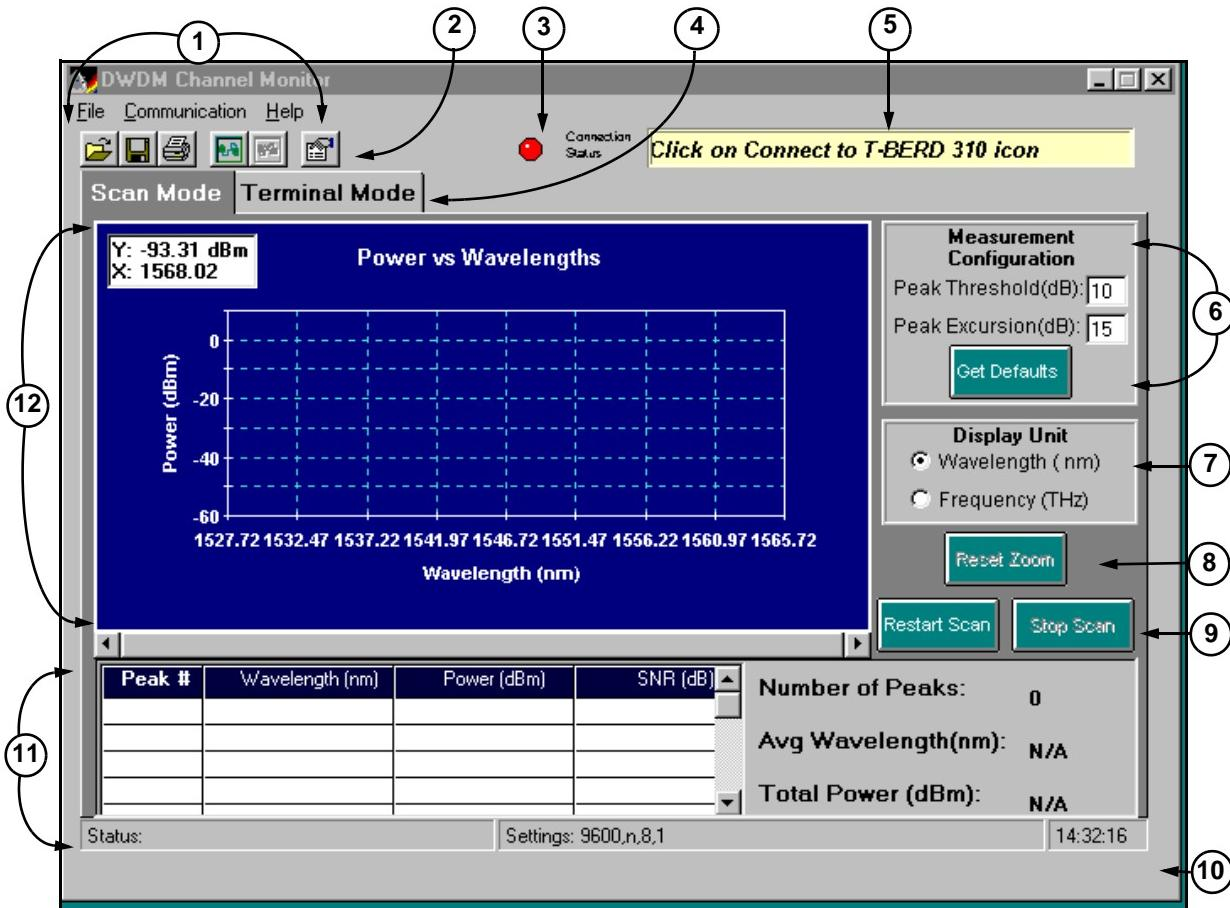
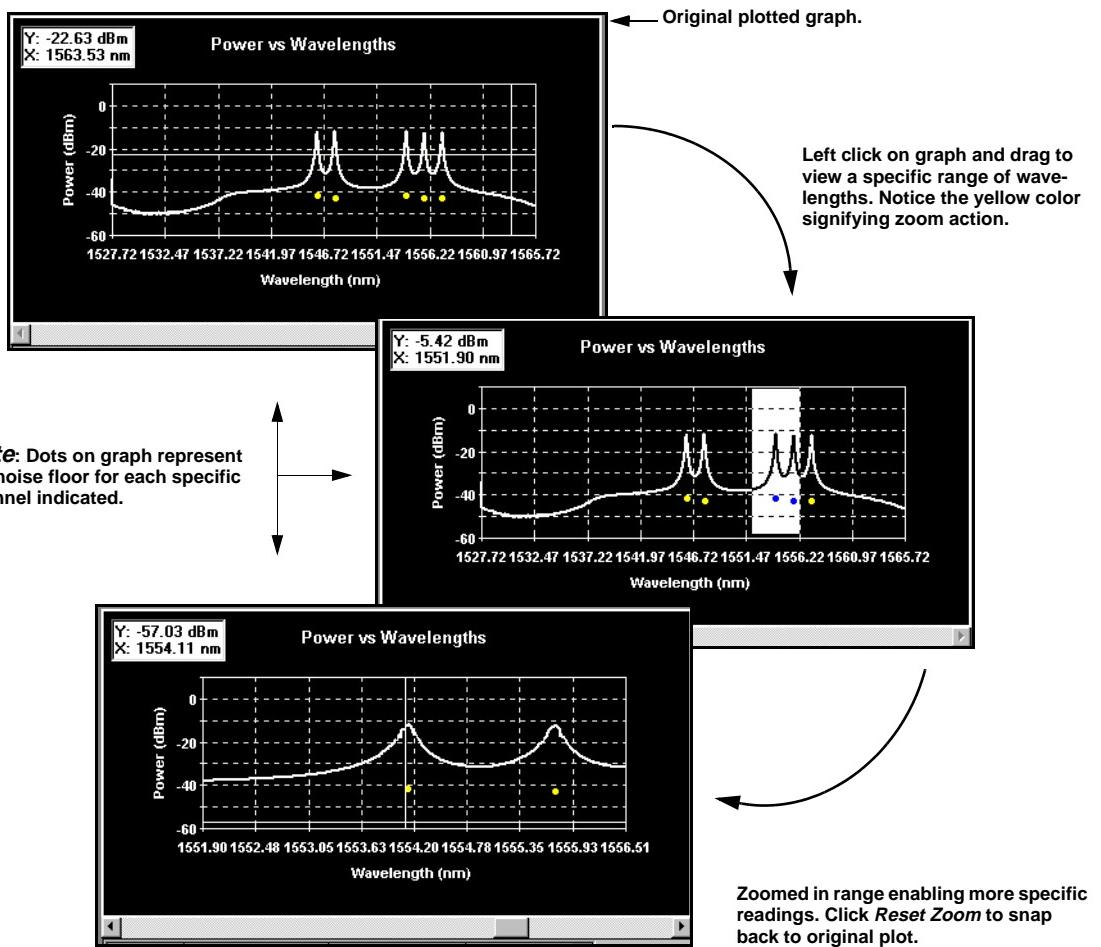

Figure 2-29. DWDM Channel Monitor Scan Mode Property Sheet
Figure 2-34. DWDM Scan Mode Zoom Capability
4. Verify connection. When program is launched on the laptop, it tries to connect automatically to the T-BERD 310. If the connection is successful, the LED above the **Scan Mode** property sheet (see Figure 2-29, callout #3) turns green; otherwise, it stays red. If red, check settings on laptop (click **Properties** icon above **Scan Mode** property sheet) to display CommPort Properties dialog box. It should look similar to Figure 2-28.
The program opens with the Scan Mode property sheet. Behind that screen is a second tab, the Terminal Mode property sheet. Figure 2-29 shows the opening screen. Descriptions of the callouts follow.
4. **Tabbed Property Sheets** — There are two tabbed property sheets: **Scan Mode** and **Terminal Mode**. The **Scan Mode** tab contains command buttons, editing capabilities, and options. When the DWDM application opens, it opens to **Scan Mode**. All graphical and table measurements are done in this property sheet (see Figure 2-29). The **Terminal Mode** functions as a terminal simulation window. It enables the user to remotely control the T-BERD 310 by typing in remote control commands (see Figure 2-33).
5. **Scrolling Marquis** — Displays initialization of applications and displays log files opened from laptop (see Figure 2-29).
6. **Measurement Configuration Window** — Numerically displays measurements of Peak Threshold and Peak Excursion of wavelengths (nm) and frequency (THz) derived from channel activity (see Figure 2-29). The numbers are determined using Peak Threshold and Peak Excursion parameters. User can modify these values at any time. An error message box displays if values are not within normal range.
7. **Display Unit Window** — Indicates if optical spectrum measurements are to be displayed in either Wavelength (nm) or Frequency (THz) (see Figure 2-29).
8. **Reset Zoom:** Enables user to return to the original (full scan) graph (see Figure 2-29). When data is not in the process of being downloaded (**Stop Scan**), user can zoom into a specific range of the wavelengths by using the mouse button and dragging on the graph (creating a rubber band). When released, the selected wavelength range displays. Figure 2-34 shows the progression of changing screens when using the zoom function.
9. **Restart Scan / Stop Scan:** Press to get or set new criteria values (see Figure 2-29). Start the scan using configuration settings displayed in the **Measurement Configuration** window. The scan covers the full spectrum (1528 nm – 1565 nm) in searching for active DWDM channels. Once DWDM results are available, data is downloaded, and the graph is updated. This cycle is repeated until user presses **Stop Scan**.
10. **Status Bar** — This area identifies which file is open, settings, and time (see Figure 2-29).
11. **Number of Peaks Table** — This table displays information about the channels from the latest scan (see Figure 2-29). The number of rows are equal to the number of channels found from the scan. Each peak depicts wavelength, power, and SNR. The maximum number of channels the user can view at any given time is five; however, a scroll bar to the right of the table automatically displays when there are more than channels peaks found, and the user can use the down arrow to view more channels. A summary report of the measurements is listed on the right side of the table (see Figure 2-35).
12. Power vs. Wavelength / Power vs. Frequency Graph — This graph plots the points from every channel found in the latest scan (see Figure 2-34). Any point on the graph results in the X (wavelength/frequency) and Y (power) coordinates displaying a numerical figure in the text box located on the top left corner of the graph. Dots on grass represent the noise floor for each specific channel indicated. The graph automatically updates with every scan.